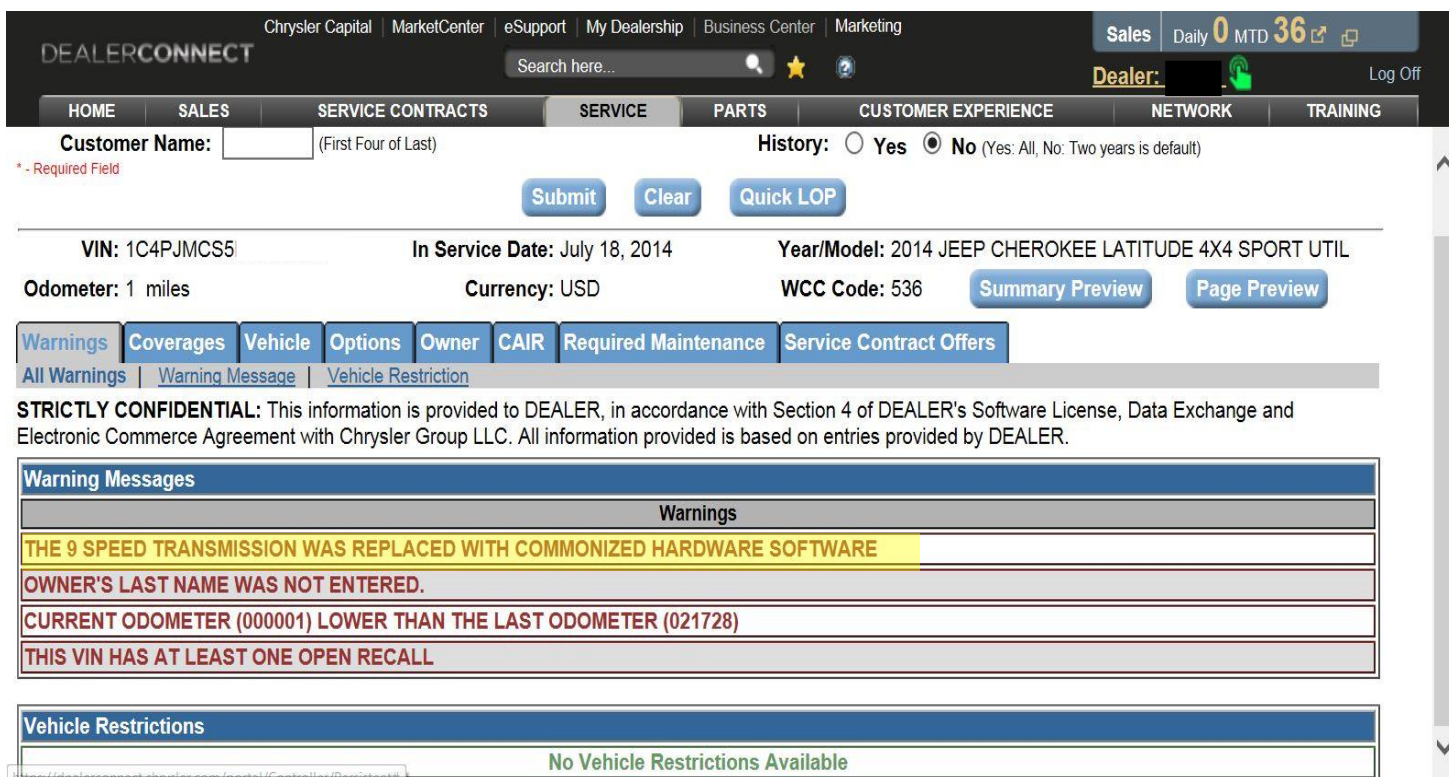

Figure 1 – Perform a VIP Enquiry to Determine if the Transaxle has been Replaced
5. Check for the following warning message (Figure 1):